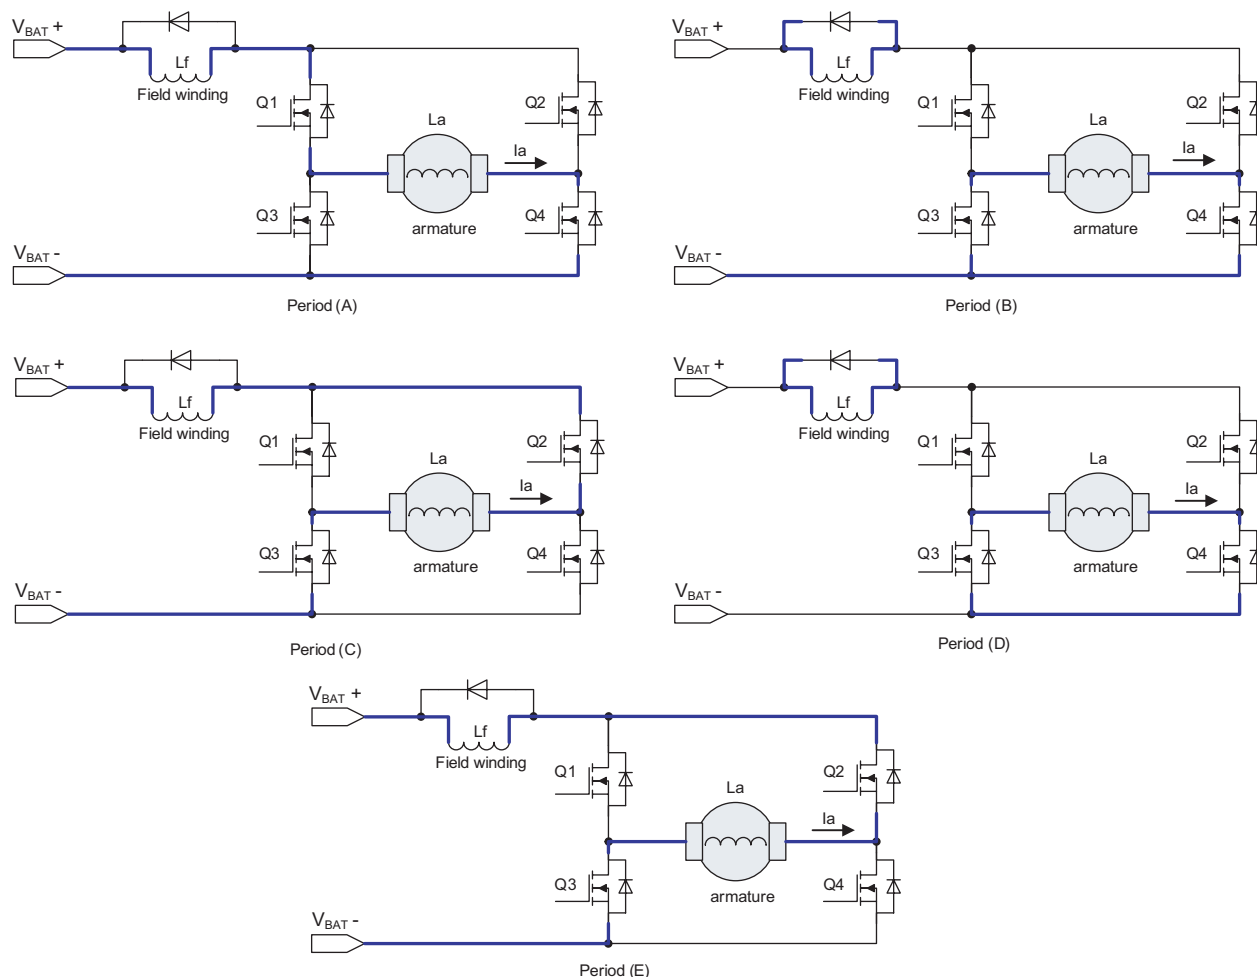

Figure 7: Full-Bridge Motor Drive Control.
The full-bridge power stage operates the motor drive control as shown in Figure 7. Each side of the motor can be connected either to the battery's positive terminal or to the battery's negative terminal through the switch. Note that only one MOSFET on each side of the motor may be turned on at any one time; otherwise the high-side and low-side MOSFETs will short out the battery and burn out.
During period (A), to make the motor run forwards, Q4 is turned on, and Q1 has the PWM signal applied to it. The current path is shown in blue in Figure 7. At period (B) Q4 is kept on, so when the Q1 PWM signal is off, current can continue to flow around the bottom loop through Q3's parasitic diode. At period (C), to make the motor run backwards or control the speed, Q3 is turned on, and Q2 has the PWM signal applied to it. At period (D), Q3 is kept on, so when the Q2 PWM signal is off, current can continue to flow around the bottom loop through Q4's parasitic diode. At period (E), when the motor is running forwards for example, the motor is now acting as a generator and forcing current through its armature, through Q2's diode, through the battery (thereby charging the battery) and back through Q3's diode.